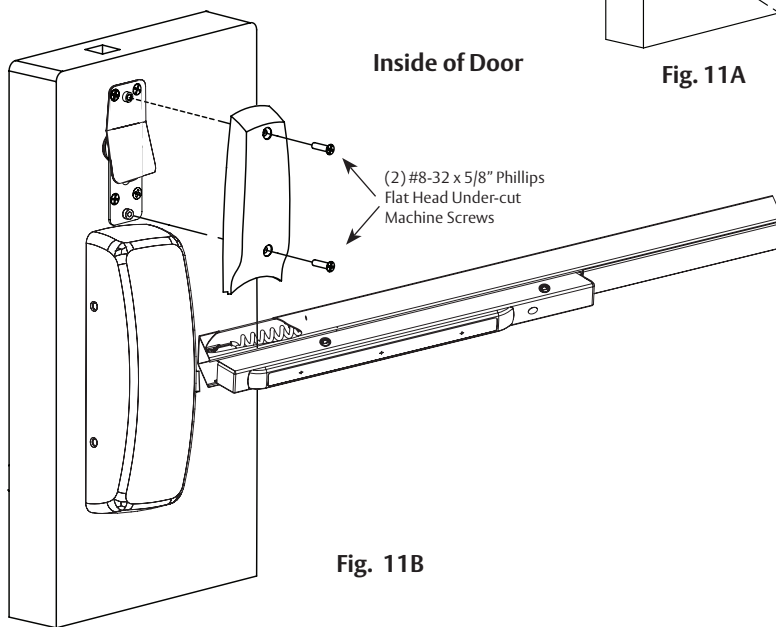

Fig. 11B
3. Mount inside escutcheon assembly to plate using (2) #8-32 x 5/8" Phillips flat head undercut machine screws (Fig. 11B).